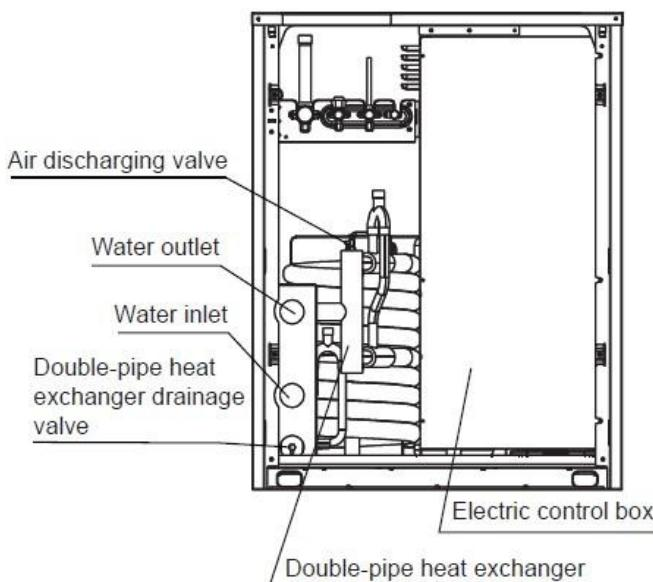
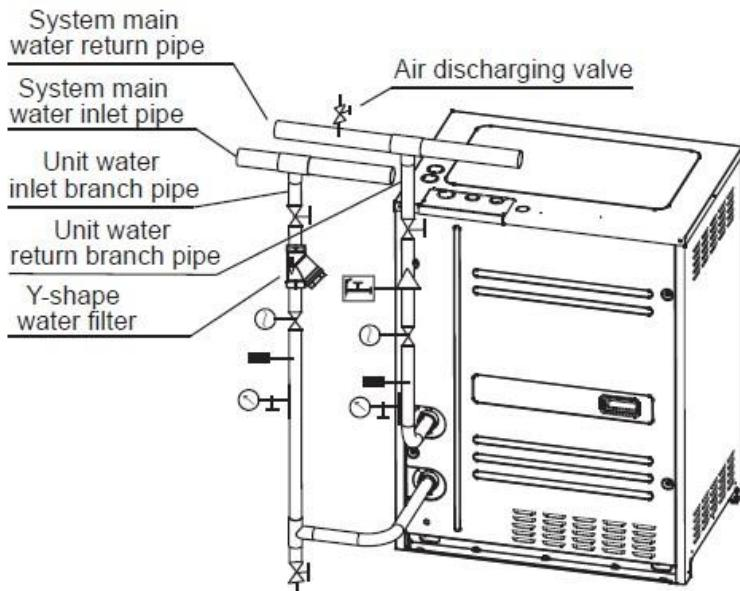

Fig.3-1
Fig.3-5
As the above Fig.3-5, when horizontal installing the water system main water inlet pipe and main water return pipe, the water inlet branch pipe and water return branch pipe which connected with the unit must be separate connected from the vertically lower direction of main water inlet pipe and main water return pipe; if connected from the side direction and the top direction will affect the unit performance.
- 5) When the unit will not be used for a long time in winter, water inside the double-pipe heat exchanger and the water pipes should be drained out in case for being frozen. The water inside the double-pipe heat exchanger can be drained out by its drainage valve, the drain age valve position as Fig.3-1 display. The user can take down the front plate and open the drainage valve for water draining, and also can without taking down the front plate then use a straight screwdriver to go through the small hole in the front plate and open the drainage for water draining, the small hole position as Fig.3-5 display.